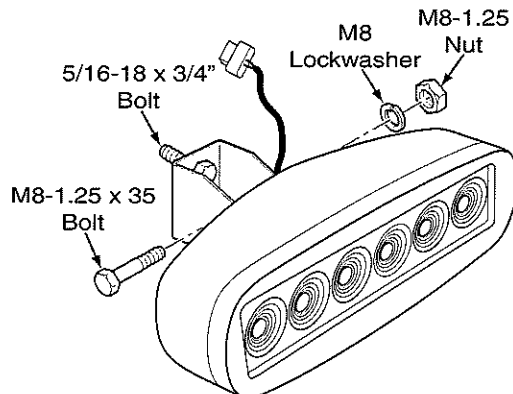

Figure 5. Assemble Mounting Brackets
6. Identify the mounting brackets supplied with each light assembly included in this kit. Install (1) one 5/16-18 x 3/4" bolt into the mounting bracket as shown in Figure 5. Using the hardware provided with each light assembly, install (1) one mounting bracket onto each light and secure using (1) one M8-1.25 x 35 hex head bolt, (1) one M8 lockwasher and (1) one M8-1.25 nut. See Figure 5. Do not tighten hardware at this time.